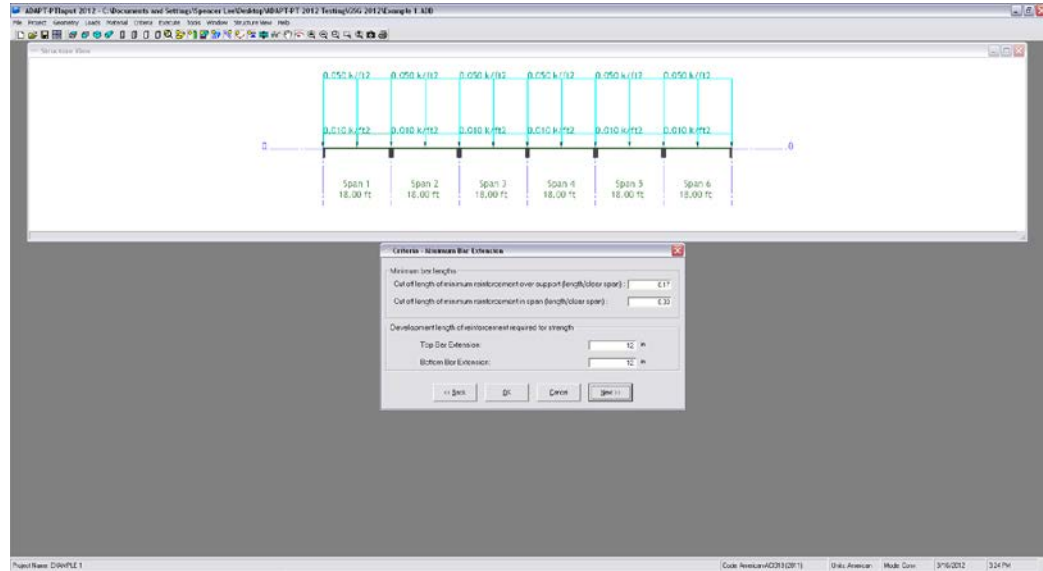

FIGURE 2.1-20
2.1.5.6 Specify Minimum Bar Length And Bar Extension Of Mild Steel Reinforcement (Fig. 2.1-20)